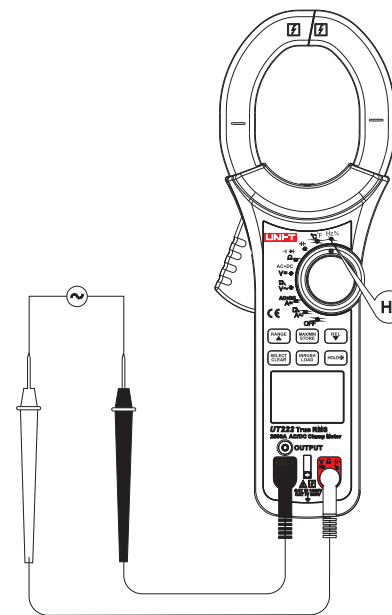

Figure 10
7. Frequency/duty ratio measurement (See Figure 10)
- Current measurement must be operated within $0^{\circ}\text{C} \sim 40^{\circ}\text{C}$, if positive reading is achieve after measuring DC current, the current direction will be from up to down (See Figure 10: the upward is panel and base cap is downward). Do not loosen trigger abruptly, since Hall component is sensitive in some extent to magnet, heat and mechanical stress, but also to the impact, which may cause short-time reading variation.
- Current measurement must be operated within $0^{\circ}\text{C} \sim 40^{\circ}\text{C}$, if positive reading is achieved after measuring DC current, the current direction will be from up to down (See Figure 10: the upward is panel and base cap is downward). Do not loosen trigger abruptly, since Hall component is sensitive in some extent to magnet, heat and mechanical stress, but also to the impact, which may cause short-time reading variation.
- Current measurement must be operated within 0°C~40°C, if positive reading is achieve after measuring DC current, the current direction will be from up to down (See Figure 10: the upward is panel and base cap is downward). Do not loosen trigger abruptly, since Hall component is sensitive in some extent to magnet, heat and mechanical stress, but also to the impact, which may cause short-time reading variation.